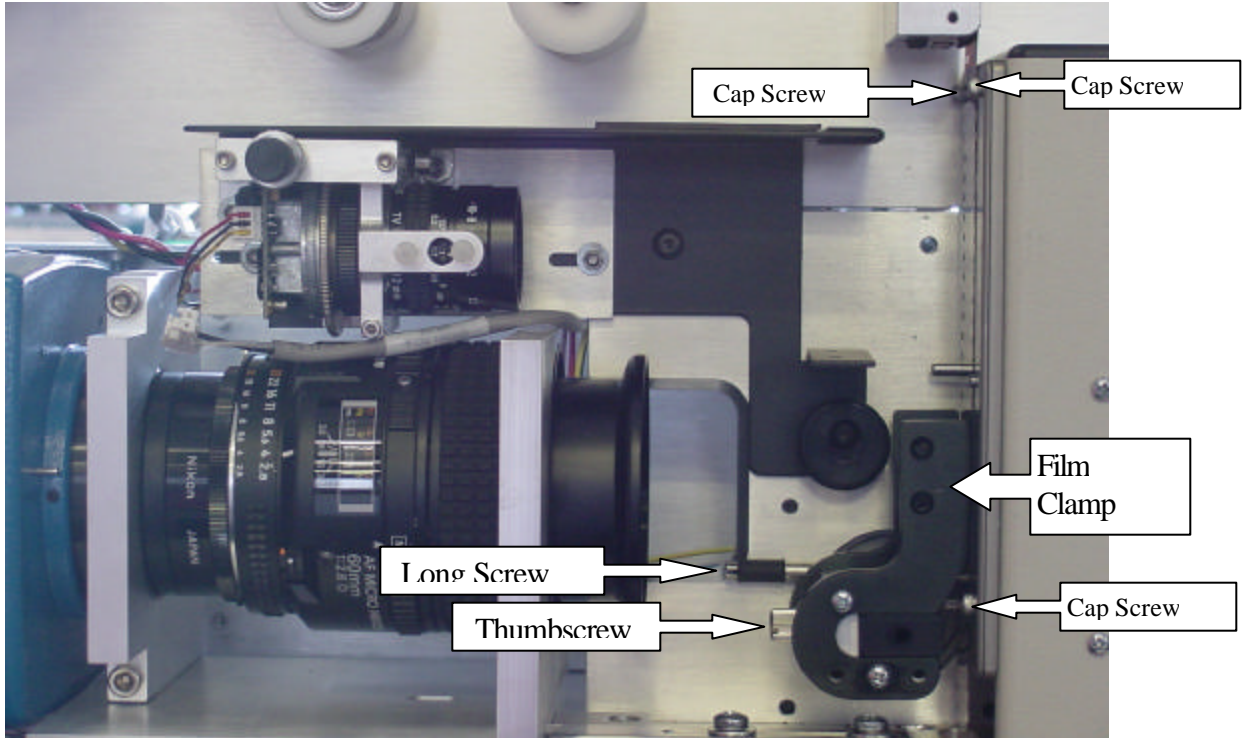
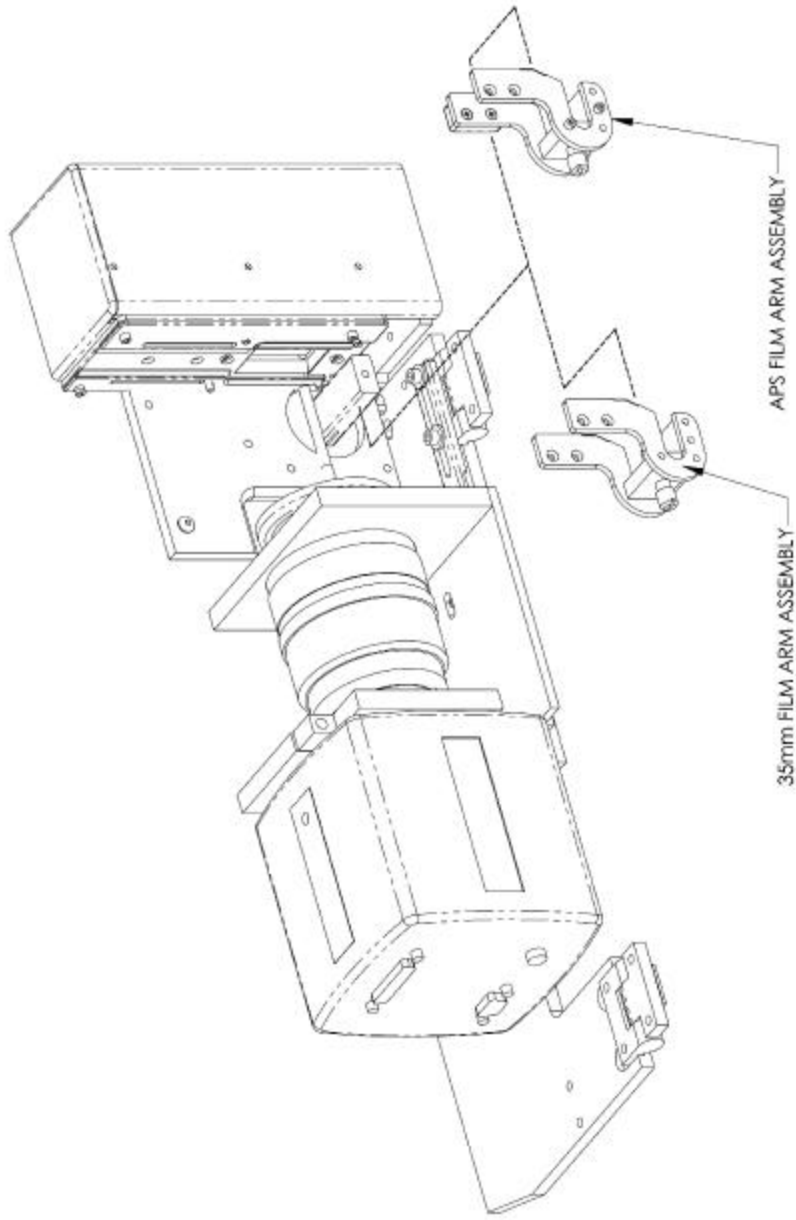
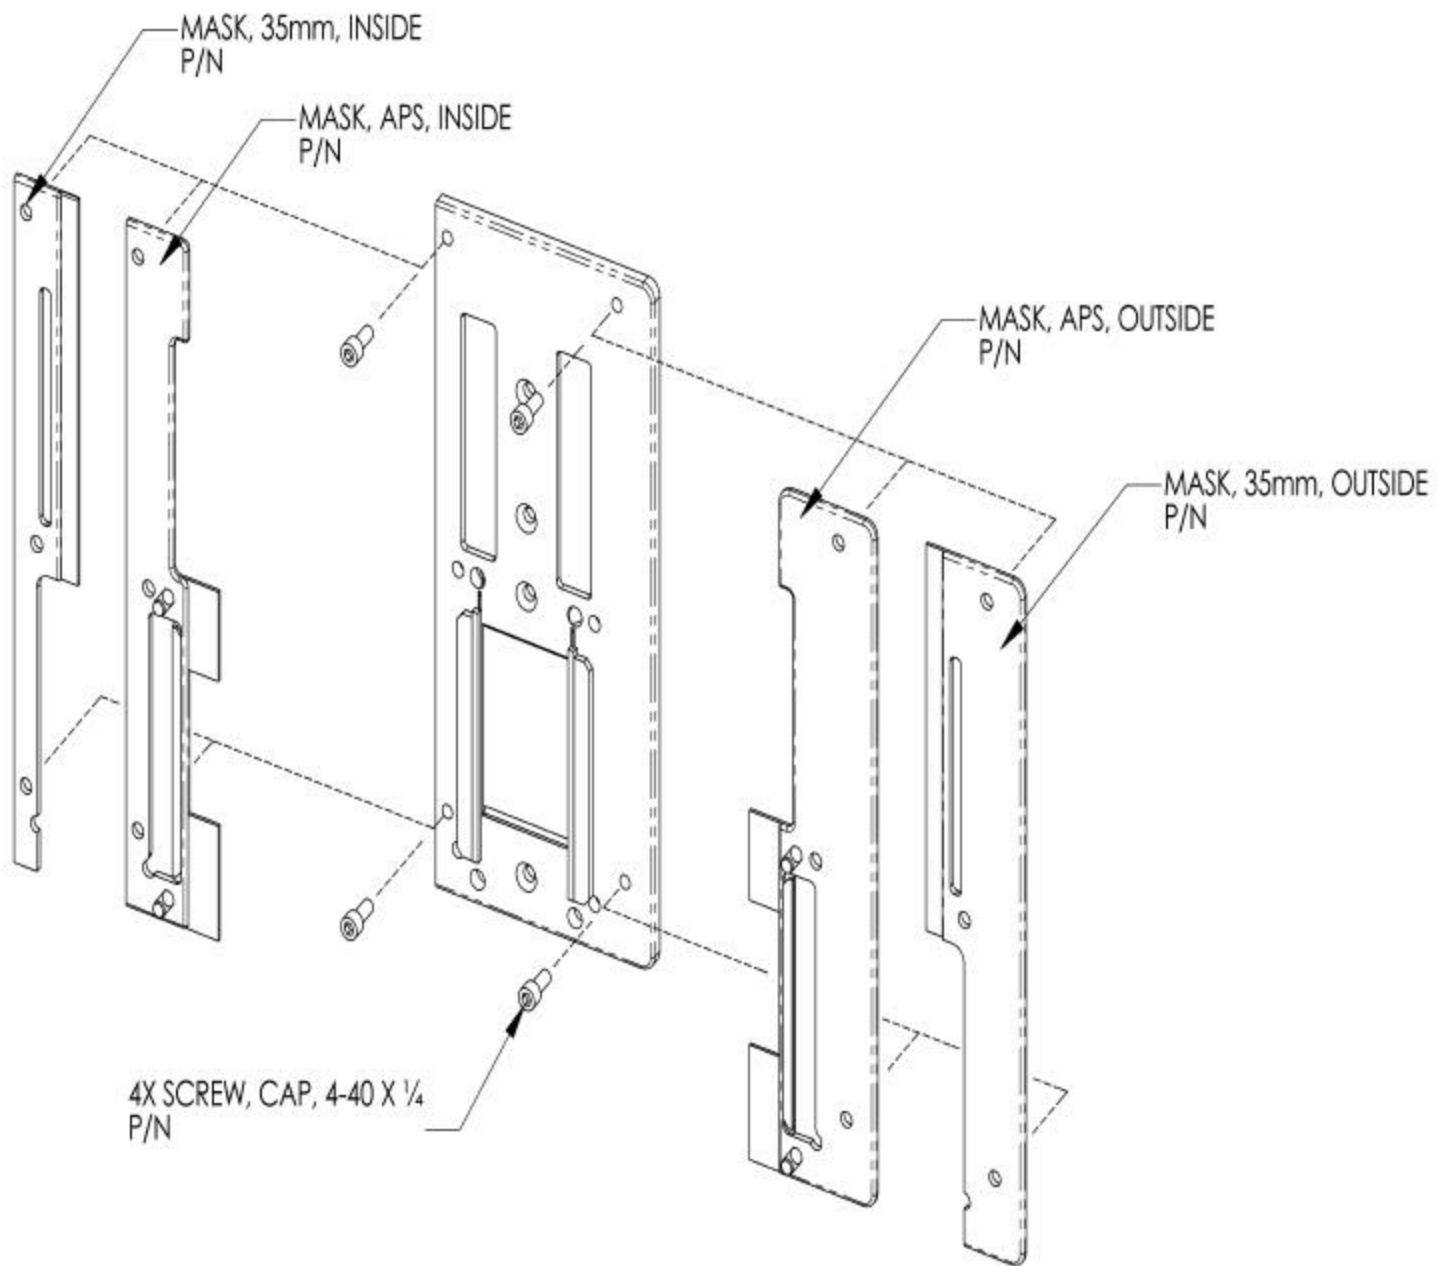

Figure C1
Figure 2
Figure 3
- 1) Remove the Film Clamp by loosening the thumbscrew holding it to the shaft adapter. Set the parts aside. See Figure C1 and Figure 2.
- 2) Remove the outside film mask by removing the two cap screws. See Figure C1 and Figure 3, Items 4. Set parts aside.
- 3) Remove the inside mask by removing the one cap screw on top and the long screw on the bottom. Set parts aside. See Figure C1 and Figure 3, Items 4 and 5.
- 2) Get the inside mask from the kit box, and using the cap screw and long screw set aside from step 3, Parts Removal, install the new inside mask. See Figure C1 and Figure 3, Items 4 and 5.
- 3) Get the outside mask from the kit box, and using the two cap screws set aside from step 2, Parts Removal, install the new outside mask. See figure C1 and Figure 3, Items 4.
- 4) Get the Film Clamp from the Kit box, and using the captive thumbscrew, mount it to the shaft adapter. See Figure C1 and Figure 2.
- 7) Using the Focus Ring of the main camera. The Focus Ring is the knurled band at the front of the camera lens. Bring the image into focus. See Figure C1.